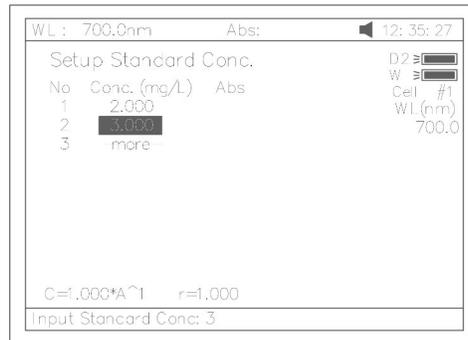
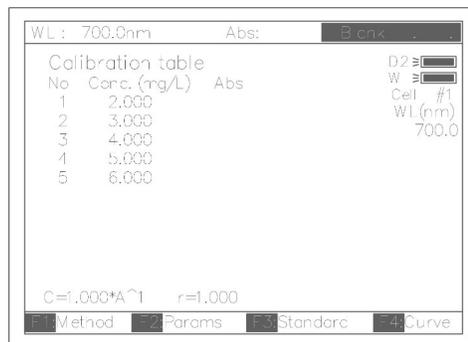

Fig 31
Fig 32
**【 ENTER 】** . Press **【 ^ 】** or **【 v 】** to modify the inputted data (Fig31). Press **【 ESC/STOP 】** to finish inputting and to exit (Fig 32).
3.3.2 Push the blank cuvette into the Reference Light Path and Main Light Path, press **[0Abs/%100T]**, the instrument will step to the wavelength and blank. See Fig 32.